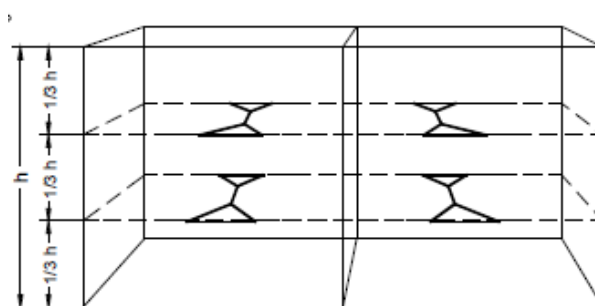

Figure 4 Horizontal cross bracing (or stiffeners) to limit the bulging of the exposed gabion face (Maccaferri)
- 8.7. Stiffeners or internal cross bracing shall be installed in 1m high gabion units connecting the exposed vertical face and the face behind it to reduce the bulging of the face. Two stiffeners shall be provided at the vertical third points. Lacing wire appropriate for corrosion protection at the given level of the structure shall be used to form the bracing. Figure 4 shows the position of these stiffeners.